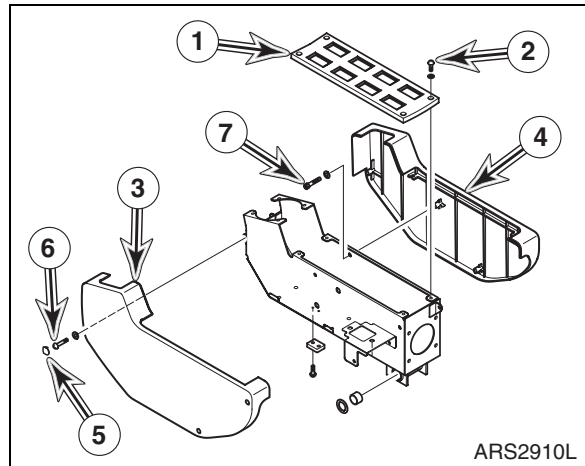

Figure 4
11. Remove four bolts and washers (2, Figure 4) and cover (1).
12. Pull cap (5, Figure 4) out and remove two screws, two bolts and washers (6) and cover (3).
13. Remove three screws, one bolt and washers (7, Figure 4) and cover (4).